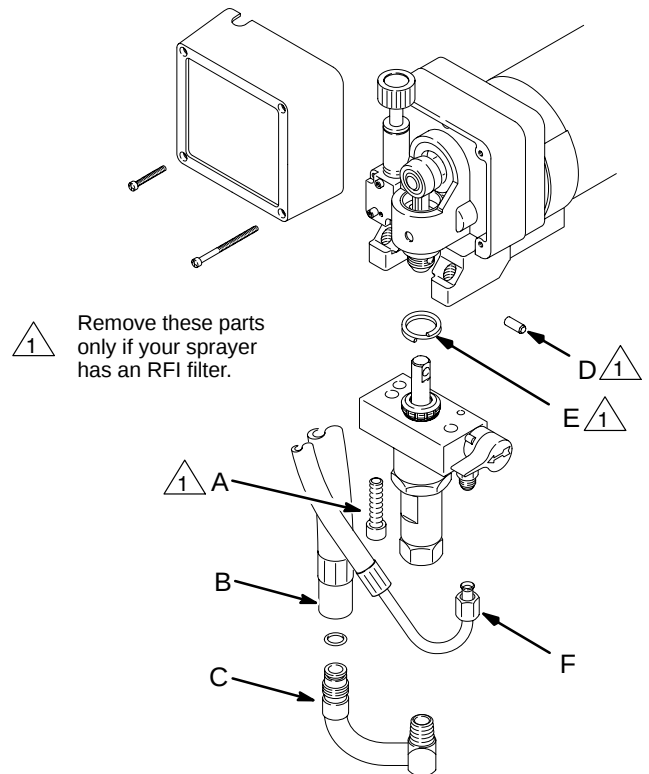

Fig 1
2. Disconnect the spray hose and drain hose (F). To remove the suction hose, pull upward on the hose (B) while unscrewing it from the inlet tube (C). The hose coupling threads will engage and the hose will separate from the tube. See Fig 1.
3. Models with RFI line filter only: Manually rotate the motor fan blades to fully lower the pump rod. Push the retaining spring (E) up and remove the pin (D). Remove the capscrews (A) and the pump. See Fig 1.